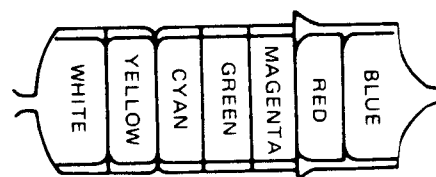

Figure 2-18.
3. Adjust T5703 so that the output of chroma signal becomes flat as shown in Fig. 2-18.